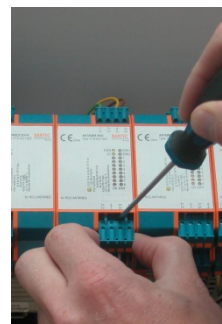

Figure 3
- (1) Use a screwdriver to loosen the plug-in spring clamps (fig. 3).